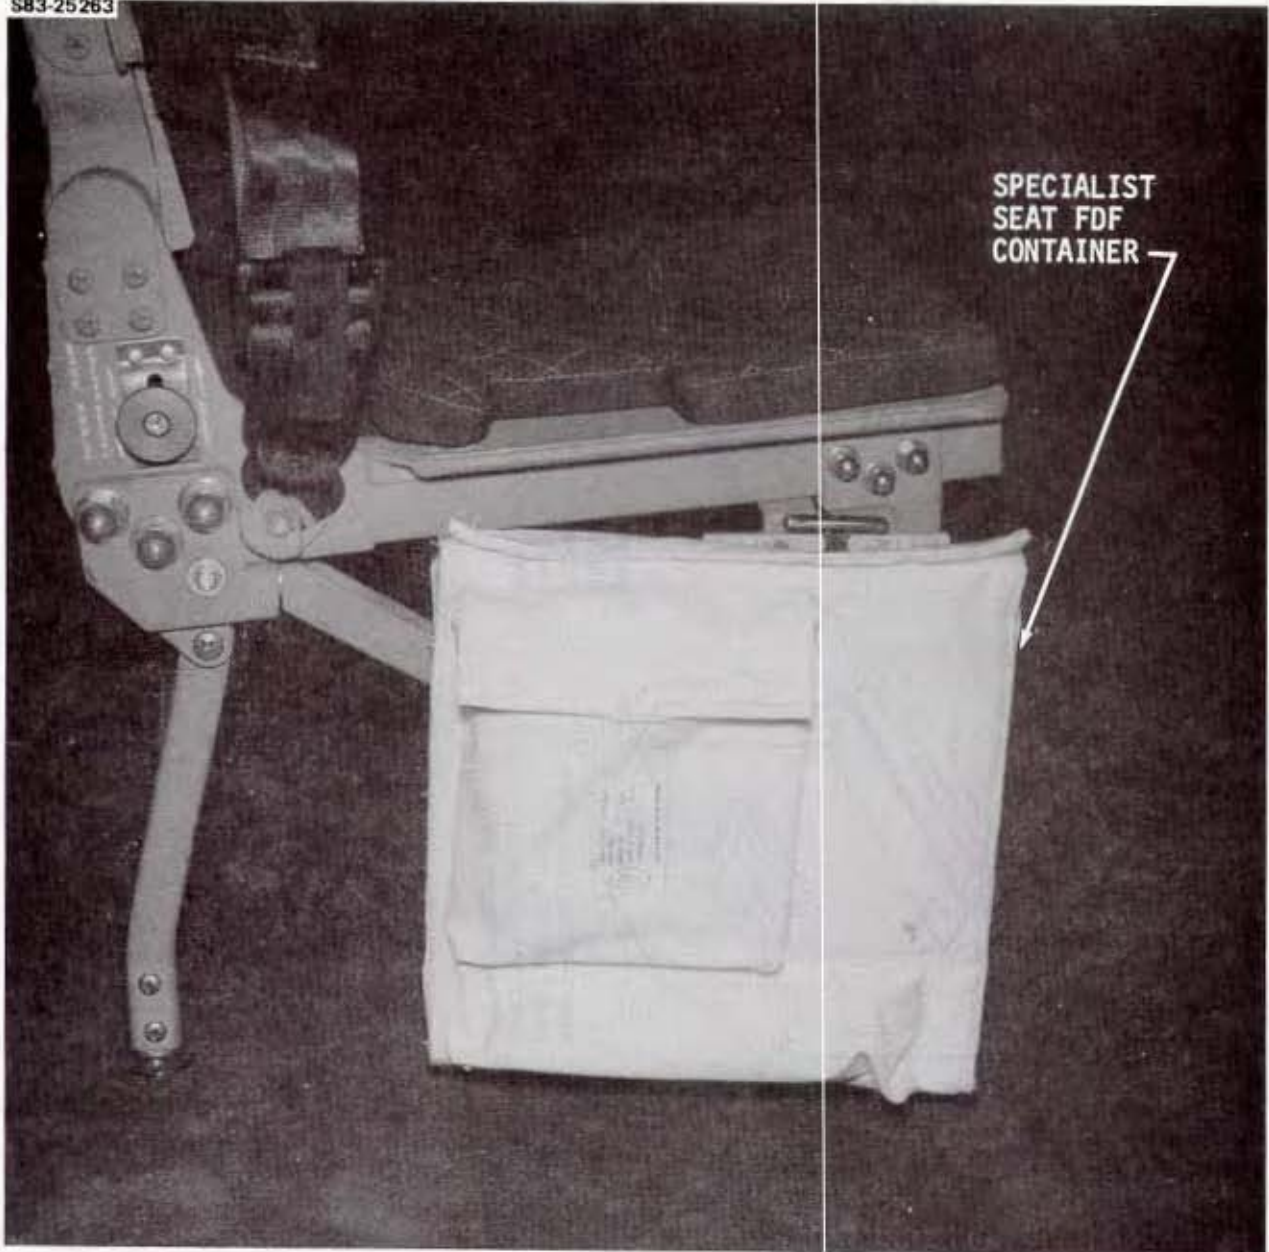

Figure 3.2-3.- Flight Data File container - specialist seat (MS bag).
- Specialist Seat FDF Container (MS bags) (fig. 3.2-3)